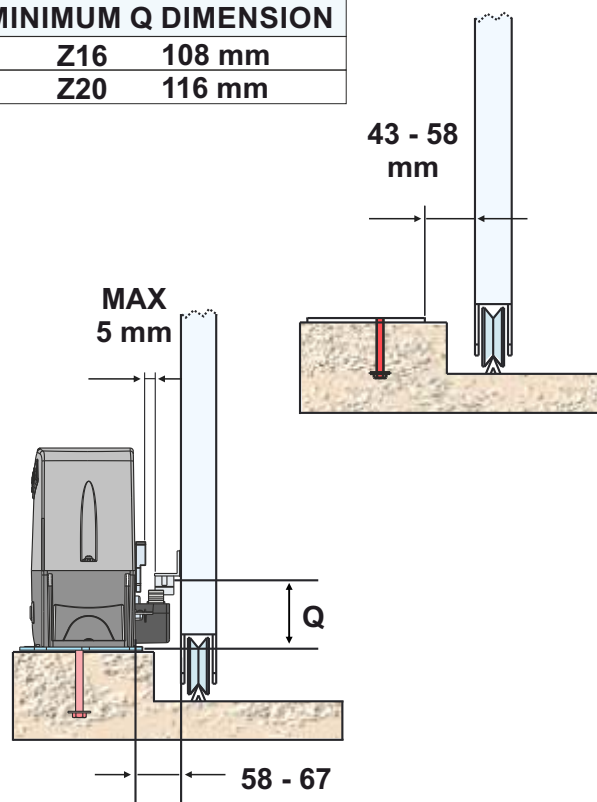
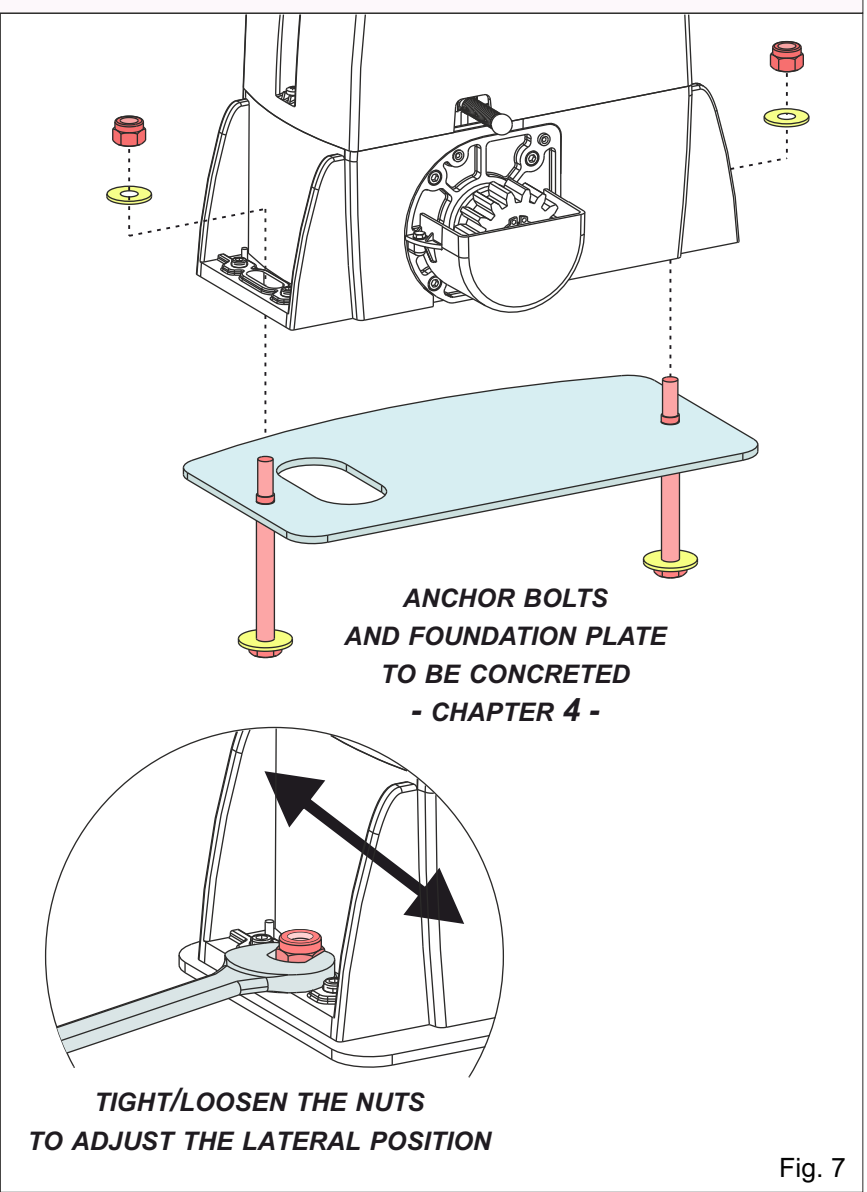

Fig. 4
Fig. 7
4.3. Before concreting the plate, make sure that it is perfectly leveled and that the distance of **58 - 67 mm** as shown in Fig. 4 is respected
6.2. Fix the gearmotor to the foundation plate using the 2 nuts provided, adjusting its lateral position - Fig. 7 - to comply with the dimensions indicated in Fig. 4